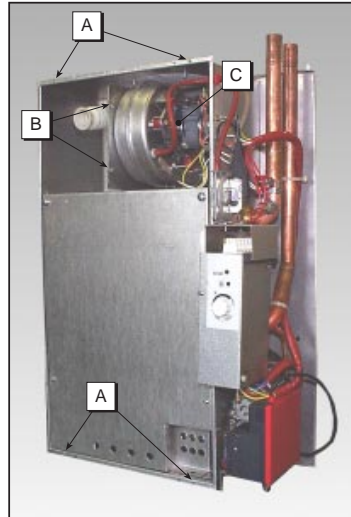

Fig. 46
7.04 Removal of Fan Assembly (rear flueing) fig. 46